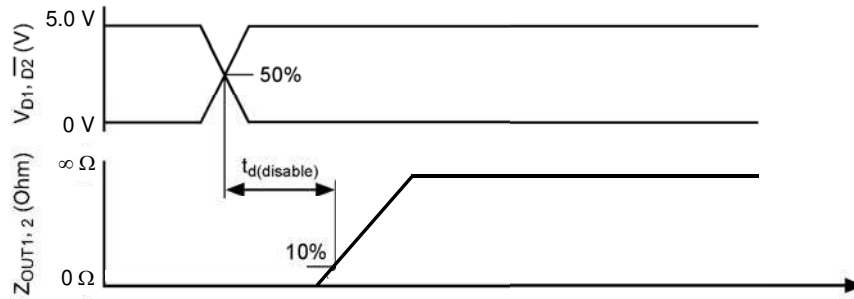

Figure 5. Disable Delay Time
26. Disable Delay Time is the time duration from the midpoint of the D (disable) input signal to 10% of the output tri-state response. See Figure 5, page 8.